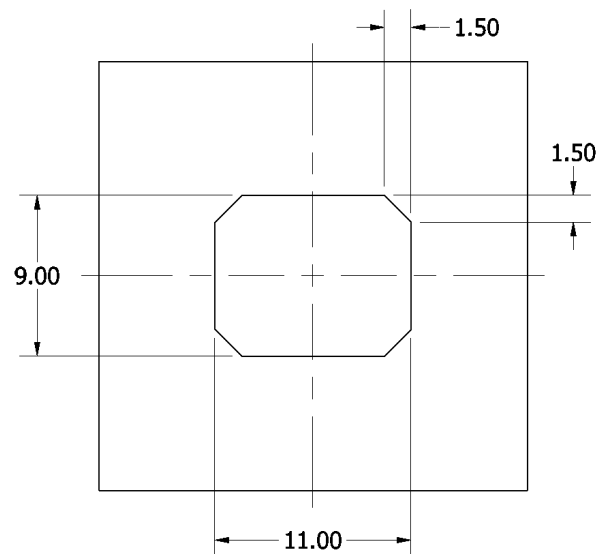

Figure 2 - Ceiling Tile Cutout.
Step 1 – Remove the ceiling tile and cut a 9" X 11" opening with 1.5" x 1.5" chamfers on all four corners with the cutout centered on both the X and Y axis (Figure 2). For larger projects, Oberon has a router template available to help decrease the time required to cut out ceiling tiles (Oberon P/N 104X-ROUTER-TEMPLATE). Contact your Oberon representative for details.